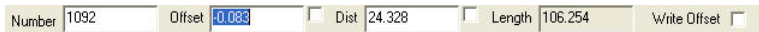

Figure 9-6. Input Bar
3. Locate the point position by entering the perpendicular offset from the reference entity and the distance along the reference entity in the input bar on the lower left of the window (Figure 9-6).